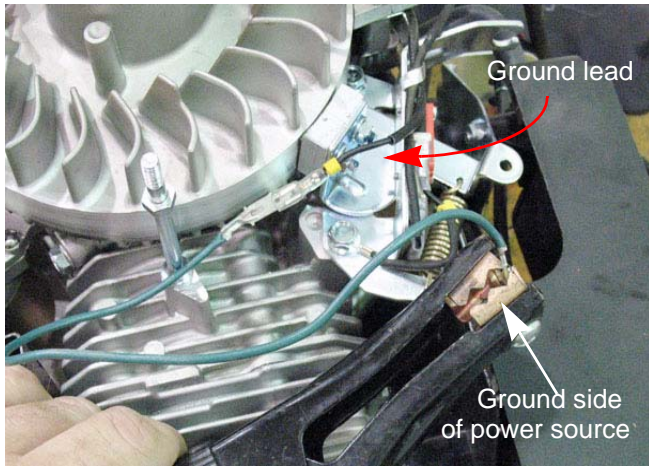

Figure 6.16
6. Connect the ground lead to the ground side of a 12V power source. See Figure 6.16.